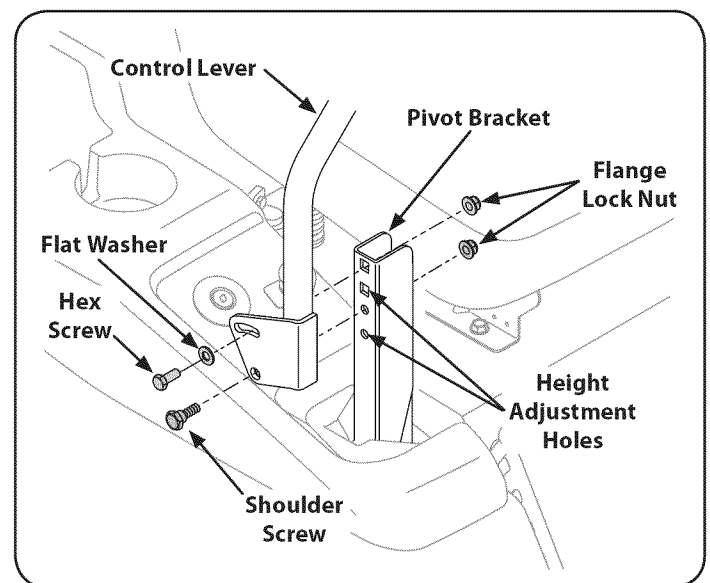

Figure 33
2. While supporting the control lever to keep it from falling, remove the hex insert flange lock nut and shoulder screw from the bottom of the control lever and pivot bracket. Refer to Figure 33.
6. Level the deck by using a wrench to turn the adjustment gear (found immediately behind the hex screw just loosened) clockwise to lower the left side of the deck, or counterclockwise to raise the left side of the deck. See Figure 33.